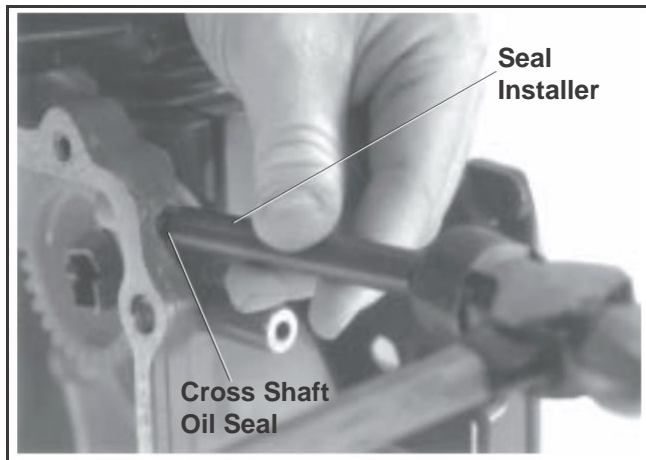

Figure 11-2. Cross Shaft Oil Seal.
3. Using the **an oil seal installer**, install a new governor cross shaft oil seal into the crankcase. See Figure 11-2.